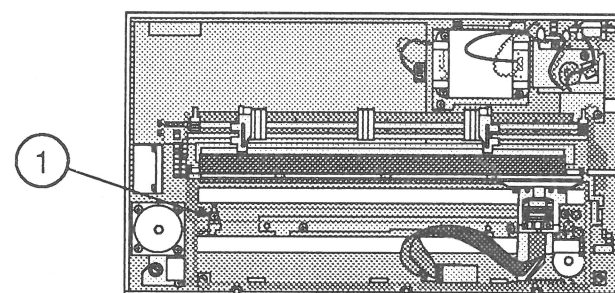

FIGURE 37
3. Remove the Phillips screw (Figure 37, #1) securing the home position switch to the mechanical assembly, and remove the switch.